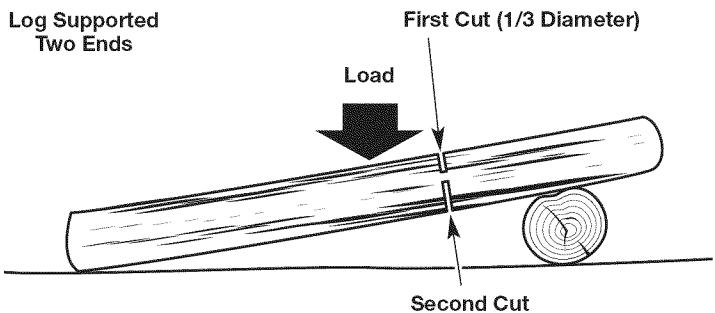

Fig. 18
- If the log is supported on two ends (Fig. 18), make the first cut from above (*Overbuckling*). Refer to *Overbuckling*.